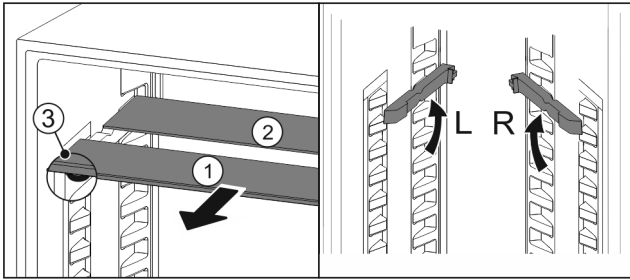

Fig. 96
- Pull the glass panels out Fig. 96 (1) from the front, one at a time.
- The glass panel Fig. 96 (1) with the trim strip is at the front.
- The stops Fig. 96 (3) point downward.